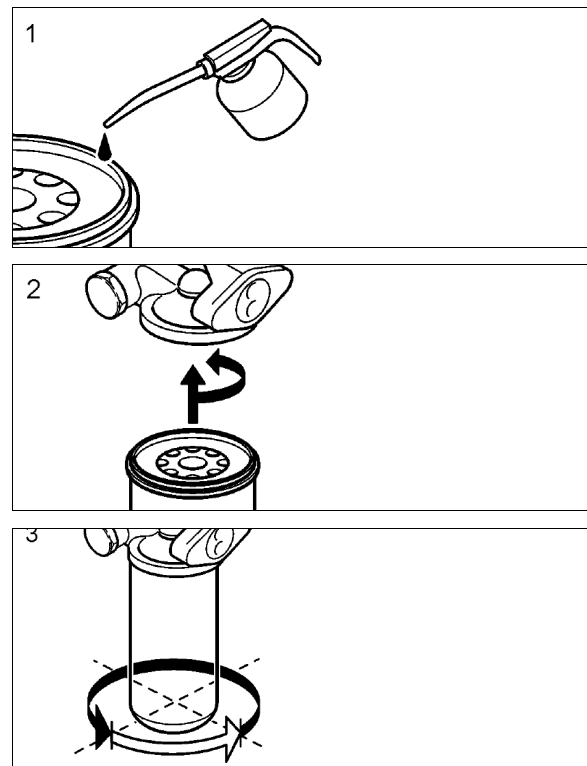

FIGURE 9: OIL FILTER REPLACEMENT
- Prefill the new oil filters with approved engine oil. Refer to Figure 9. Also, lubricate the filter gaskets with engine oil (1). Hand tightens the oil filters until they contact the sealing surface of the oil filter housing (2). Manually tighten the oil filters an additional  $\frac{3}{4}$  to 1 full turn (3).